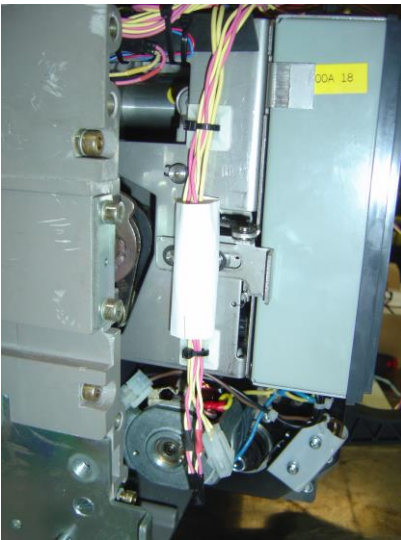

Figure 6. Close Coil wire routing
9. Place the ferrite from the coil assembly behind the coil. Route the wire from the close coil to the side of the PMU base for the connection with Electrical close switch as shown in fig.6.